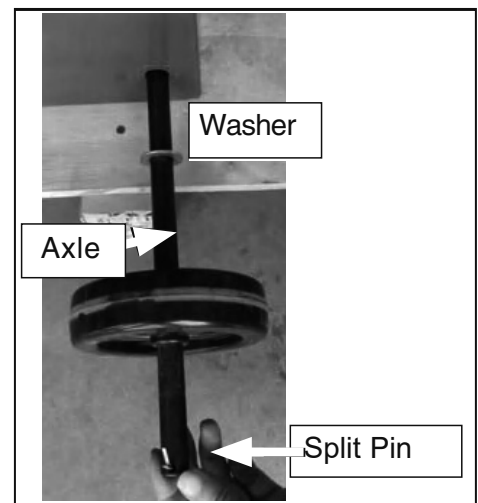

Figure 5. Wheels secured with cotter pin.
2. Slide one flat washer onto the axle, followed by a wheel. Secure with cotter pins and plastic cover as shown in Figure 5.